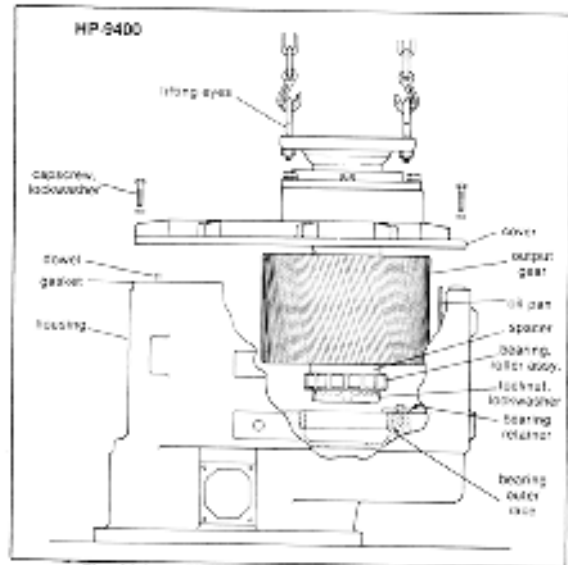
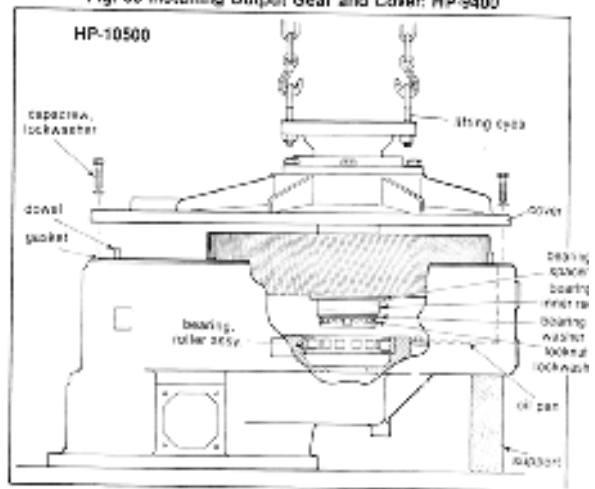

Fig. 36 Installing Output Gear and Cover: HP-9400
Fig. 37. Installing Output Gear and Cover: HP-10500.
4. Using adequate hoist, carefully lower the cover/output gear assembly into place, see fig.36 or fig 37. A slow twisting of the output flange can aid in proper location of roller bearing. Secure cover in place with cap screws and lock washers. Tightening torque is 65-lb-ft.